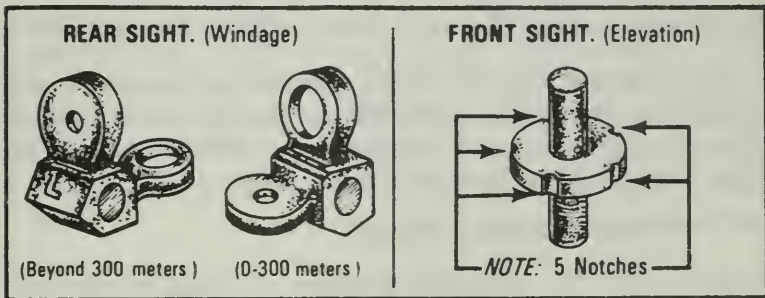

Figure 102. Standard daylight sight system.
2. The standard sight system (Figure 102).